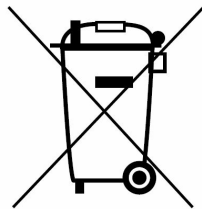

Fig. 1
- The symbol of a crossed-out wheelie bin on the product (Fig. 1) indicates that the end users should segregate the product from other waste at end-of-life, in accordance with the provisions of Directive 2012/19/EU of the European Parliament and of the